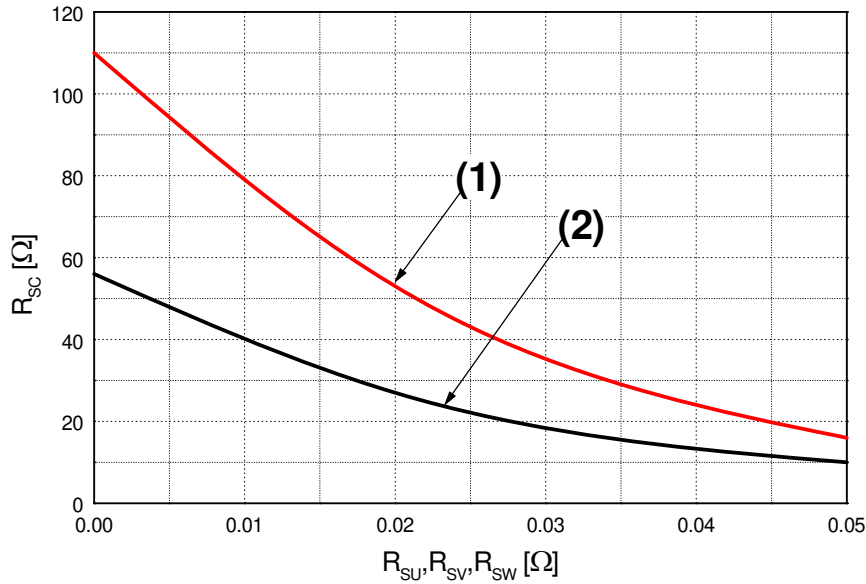

Figure 6. R_{SC} Variation by Change of Shunt Resistors (R_{SU}, R_{SV}, R_{SW}) for Short-Circuit Protection
- Short-circuit protection is functioning only at the low-sides. It would be recommended that the value of the external sensing resistor (R_{SC}) should be selected around 56 Ω in order to make the SC trip-level of about 45A. at the shunt resistors (R_{SU}, R_{SV}, R_{SW}) of 0 Ω . For the detailed information about the relationship between the external sensing resistor (R_{SC}) and the shunt resistors (R_{SU}, R_{SV}, R_{SW}), please see Figure 6.